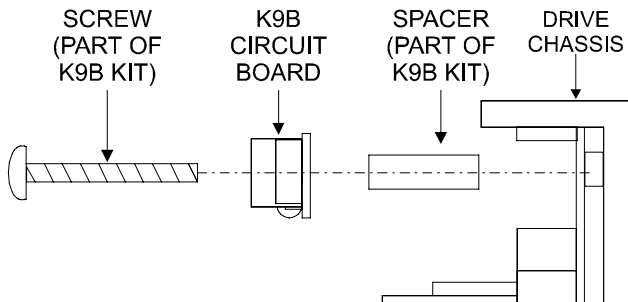

Figure 2. K9-B Installation Sequence
2. Install the K9-B circuit board, spacers and new mounting screws as shown in Figure 2.